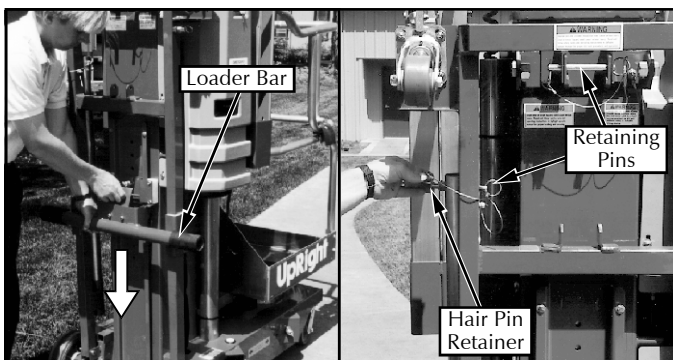

Figure 3-8: Loader Bar / Strut
2. Release the gravity hook and lower the Loader Bar (fig. 3-8).
3. Unpin the top of the Strut and remove it from the storage pocket on the Tilt Back Frame (fig. 3-8)
4. Unpin the lower end of the Strut and return it to its storage pocket. Insert the lower Retaining Pin into the upper end of the Strut and secure it with the Hair Pin Retainer, wrapping the cable around the leg of the Tilt Back Frame (fig. 3-8).